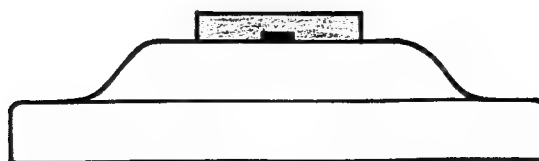

Fig. 3.3. Pivot centre button
- Prise off the centre knobs from each pivot, using a screwdriver (Fig. 3.3.) in one of the small slots at the sides of the knobs